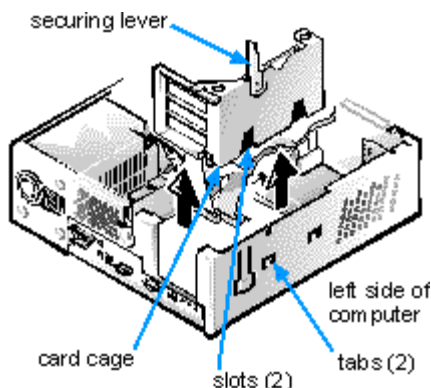

Figure 5-7. Removing the Expansion-Card Cage
3. Locate the securing lever (see Figure 5-7). Rotate the lever upward until it stops in an upright position.
1. With the securing lever in the upright position, align the slots in the left side of the expansion-card cage with the tabs on the left side of the chassis (see Figure 5-7).